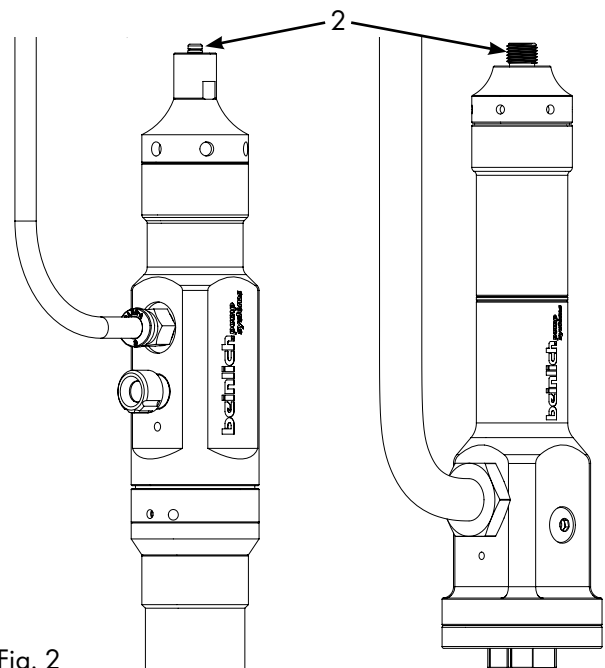

Fig. 2
- Set up the pump as shown in Fig. 2.
- Start the pump and pump medium until it exits the outlet without air in it (item 2).